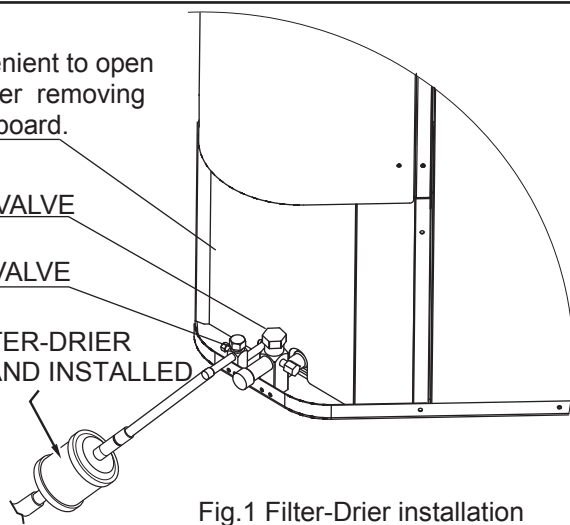

Fig.1 Filter-Drier installation
- Good Refrigeration practices require the installation of a field supplied liquid line drier, as shown in Fig.1.